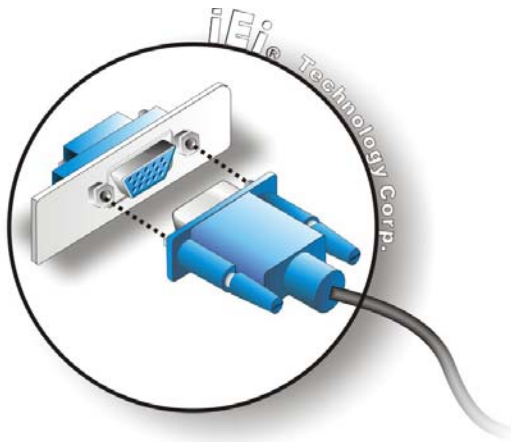

Figure 3-32: VGA Connector
Step 3: **Insert the VGA connector.** Once the connectors are properly aligned with the insert the male connector from the VGA screen into the female connector on the AFL2-W15B-H61. See **Figure 3-32**.